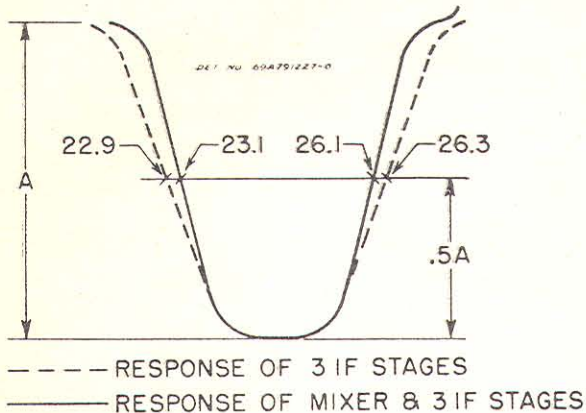
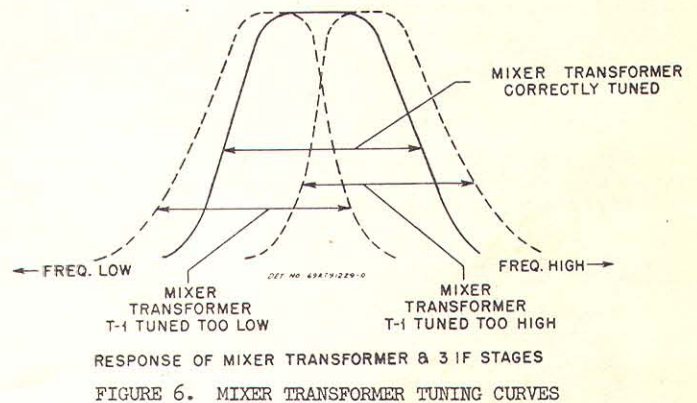

FIGURE 5. MIXER & IF WAVEFORM
FIGURE 6. MIXER TRANSFORMER TUNING CURVES
6. Adjust the 1st IF coil, L-10, to place a 26.3 mc marker signal 50% (1/2) the way up the high side of the response waveform. Refer to Figure 5 for marker positions on waveform obtained.
NOTE: It may be necessary to repeat procedure to obtain proper waveform; see Figure 5.
With the battery bias still applied to the 1st IF, move the sweep generator to the grid of V-2A mixer tube. Connect it across resistor R-5 (33K). Set contrast control at slightly less than maximum gain. Bring both cores simultaneously from extreme outside positions toward the center until the 26.1 mc marker is 50% (1/2) way up the high frequency slope, and the 23.1 mc marker is 50% (1/2) way up the low frequency slope. Correct waveform is shown in Figure 5.
In aligning the three IF coils, each coil is adjusted individually, but when adjusting the primary and secondary of the mixer transformer T-1, the adjustments should be made simultaneously. The important point to keep in mind is to obtain as flat and as wide a response curve as possible with as much gain as possible. Simultaneous adjustment of the primary and secondary is the easiest way to obtain this result. The transformer by itself is, in effect, tuned for the same pass band as the three staggered circuits. See Figure 6. The only difference in the overall waveform should be that the sides of the overall curve (Figure 5) should be steeper. Constant use of the 50% response marker signals to show the bandwidth of the response curve should be resorted to, since it is absolutely necessary to obtain the proper curve. A slight dip (not exceeding 10%) is permissible in the mixer transformer response curve.